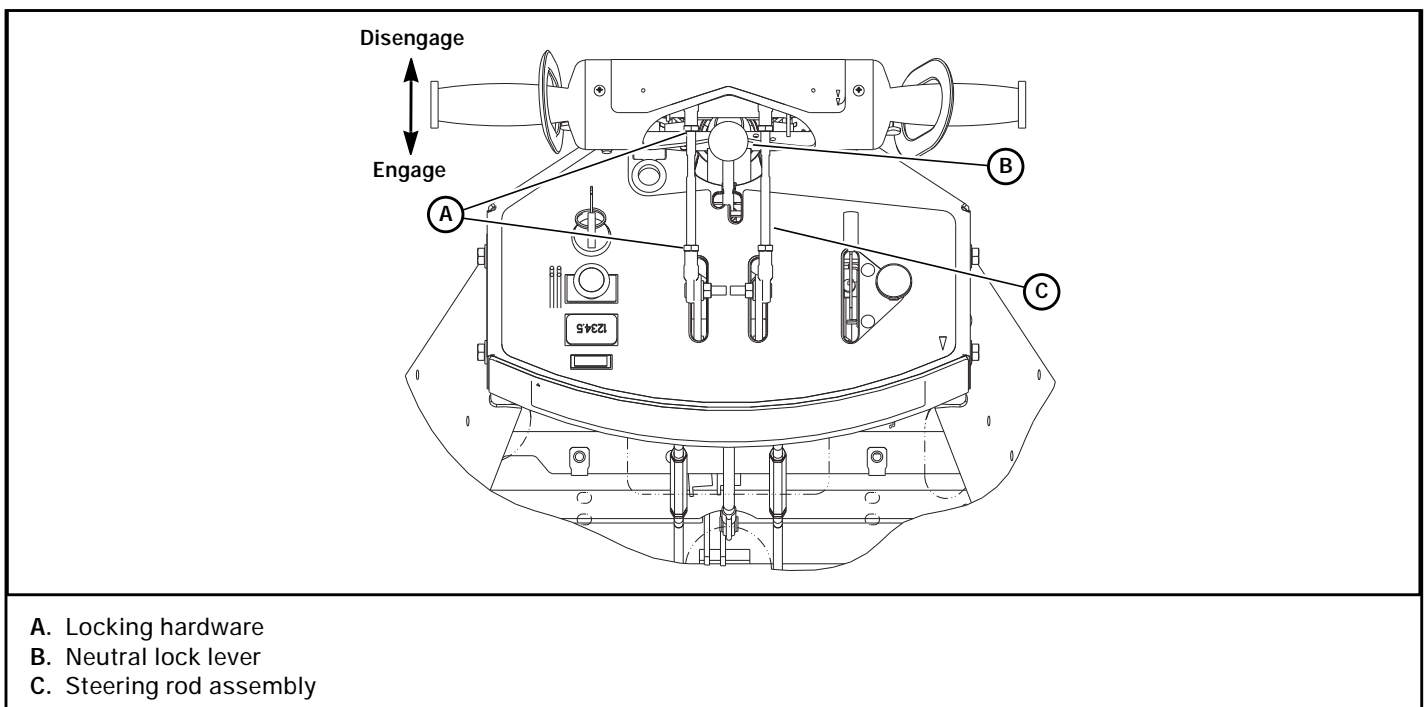

Figure 4-3
4. Place the neutral lock/park brake lever in the park brake position with the engine running. Figure 4-3
1. If the unit pulls to the right, loosen the lock nuts on the right hand steering rod assembly. If the unit pulls to the left, loosen the lock nuts on the left hand steering rod assembly. Figure 4-3
3. While driving, adjust the steering rod assembly by rotating the center adjustment rod until the mower tracks straight. Figure 4-3
5. Tighten the lock nuts on the steering rod assembly. Figure 4-3